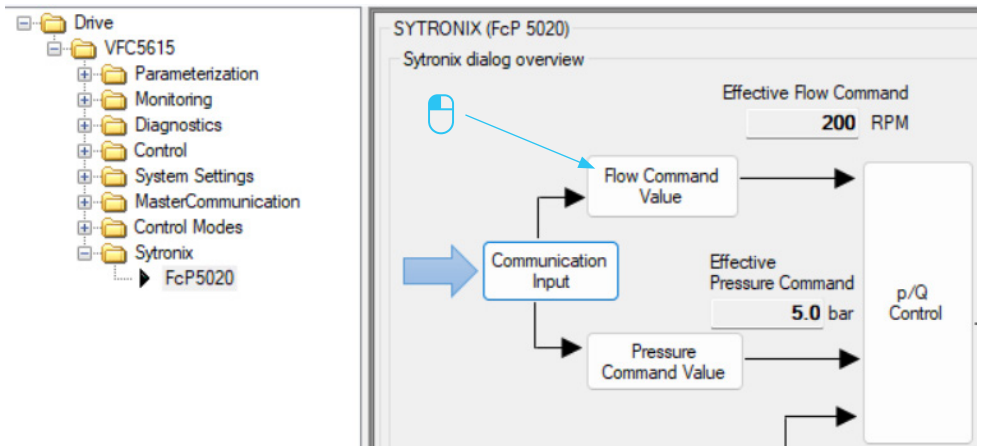

Fig. 29: Flow command value fixed 1/2
1. Press "Flow Command Value" (see Fig. 29: Flow command value fixed 1/2). A new dialog opens.